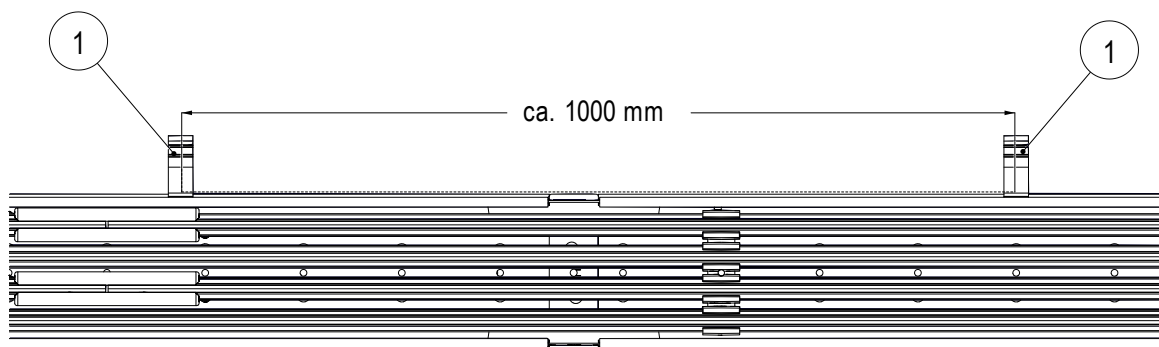

Fig. 41: Spacing of band brackets
2. Install all other band brackets in the same way, maintaining the distance of 1000 mm (see Fig. 41).